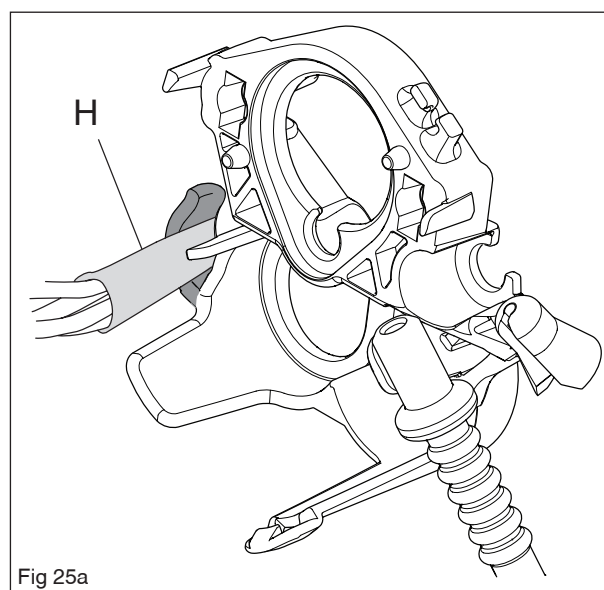
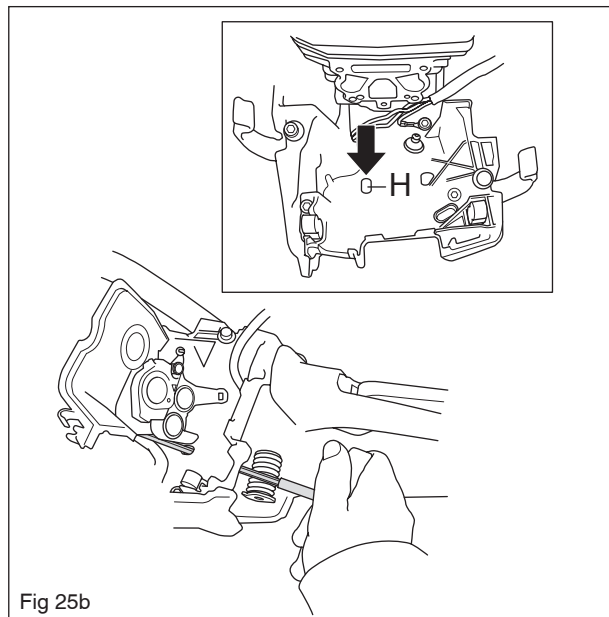

Fig 25a
Fig 25b
2. Hook off the cabling H from the holder on the intake system. See figure 25a. Knock out the POP-out window using a screwdriver. See figure 25b. Lower the tank slightly and slide the fuel hose down into the hole. Loosen the lower screws of the intake system using the POP-out hole and the fuel hose hole. Loosen the other screws.